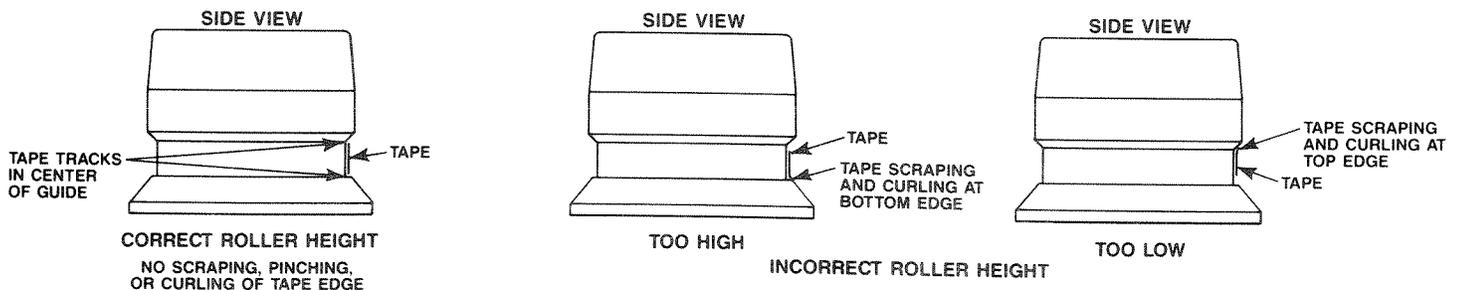

Figure 6-24. Tape Path Over the Roller Guides
or for some reason, the original adjustment of these parts is disturbed. Check the tape path over each of the roller guides referring to Figure 6-24. If the tape is riding smoothly through each of the guides without wrinkling, pinching or noise in FAST FORWARD or REWIND mode, then adjustment is not necessary.
- STEP 5** Observe the tape path over the timer roller. The tape should ride in the center of the guide and no scraping noise should be detectable. Make sure that the tape rides smoothly over the guide by visual inspection (refer to Figure 6-24 Tape Path).
STEP 10 Observe the tape path over the roller guide and turn the guide alignment tool clockwise or counter-clockwise until the tape rides in the center of the roller guide and no scraping noise is detectable. Visually inspect that the tape rides smoothly over the roller guide (refer to Figure 6-24 Tape Path).
STEP 14 Observe the tape path over the S-Roller. The tape should ride in the center of the guide and no scraping noise should be detectable. Make sure that the tape rides smoothly over the guide by visual inspection (refer to Figure 6-24, Tape Path).